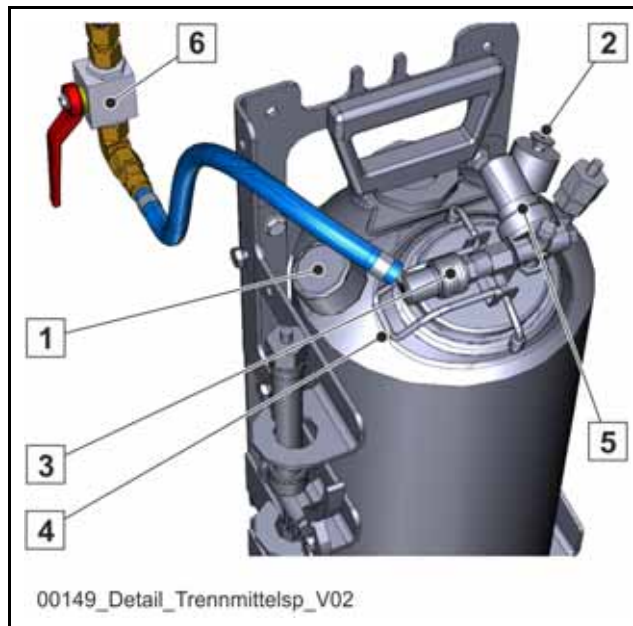

Fig. 541
Only open the pressure tank if the pressure gauge on the pressure tank (1) (Fig. 541) is pointing to "0".
Caption (Fig. 541)
2. Connect the quick-acting coupling (3) (**Fig. 541**) to the compressed air supply of the pressure tank.
3. If available, open the ball valve (6) (**Fig. 541**).
The pressure release valve (5) (**Fig. 541**) is set to the optimal value in the factory and may only be changed by a SCHWING representative.
- Disconnect the compressed air supply from the pressure tank, if available, by closing the ball valve (6) (**Fig. 541**) or by switching off the vehicle and disconnecting the quick-acting coupling (3) (**Fig. 541**).
- Open the pressure relief valve (2) until compressed air no longer exits the pressure tank.